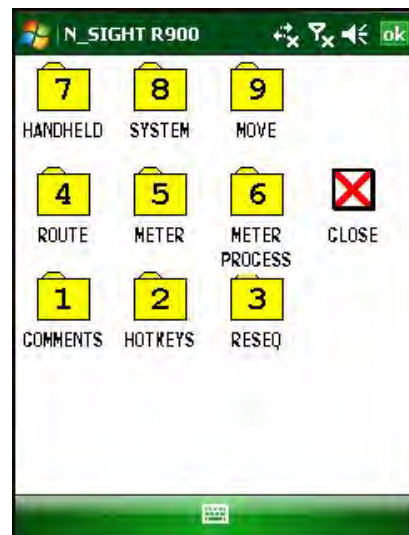

Figure 4.17 N_SIGHT R900 F1 Menu
- The **System Menu** appears as illustrated in Figure 4.17.